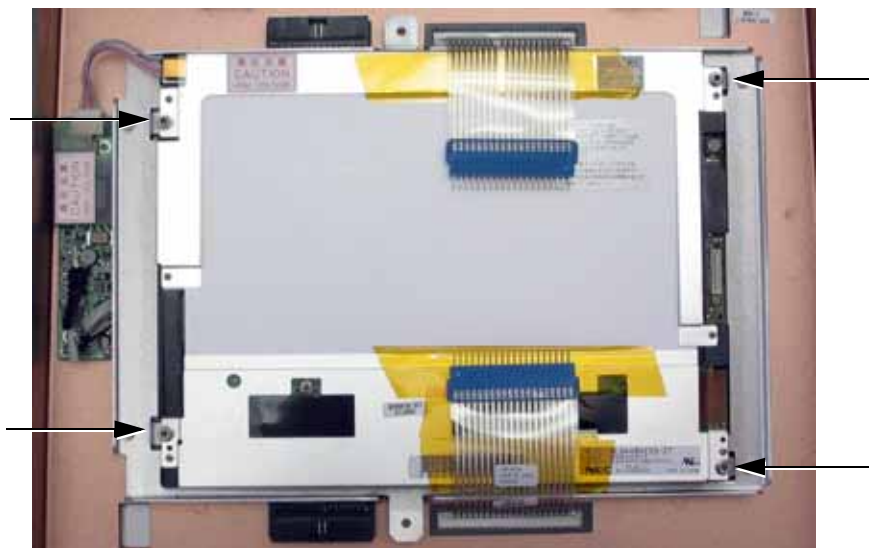

Figure 9-97: Disassembling the LCD
3. Remove the four screws and washers securing LCD to the LCD bracket (Figure 9-97).